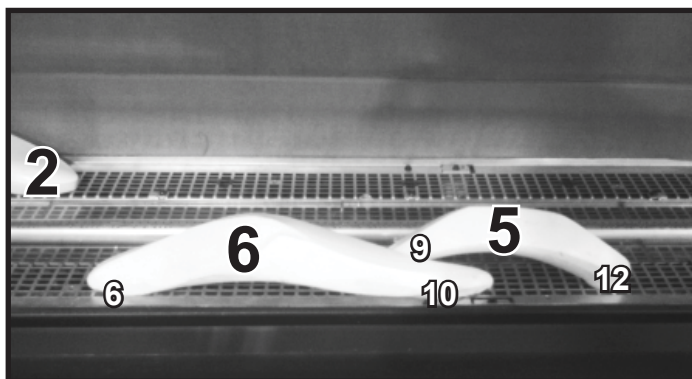

Figure 7. (SRV2310-755)
8. **(SRV2310-755):** Install Log #5 onto shoulder screws #9 and #12 by aligning the log placement holes with the shoulder screws. See Figure 7.